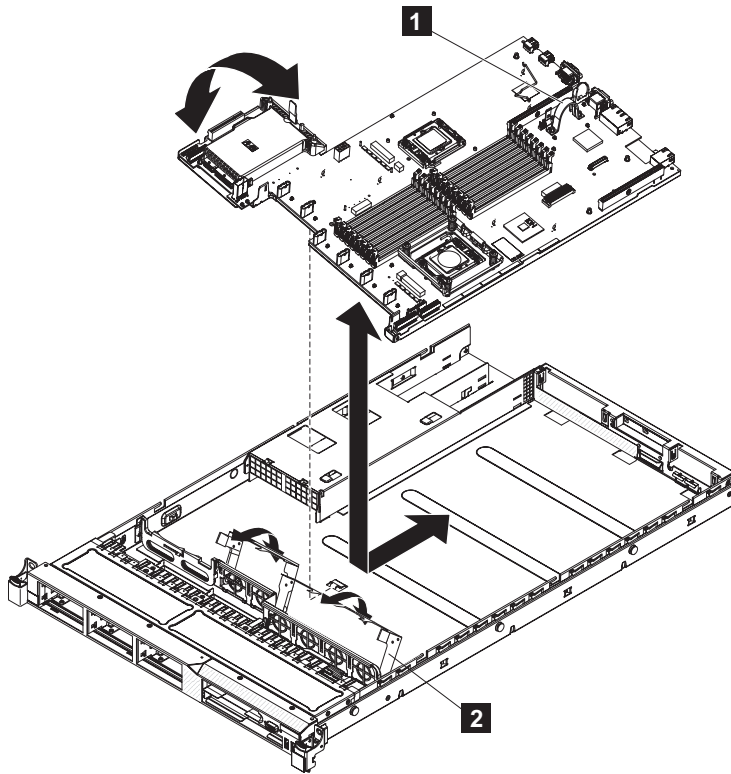

Figure 264. Removing and replacing the SAN Volume Controller 2145-CF8 system board
17. Grasp the system board handle ( **1** in Figure 264 on page 242) and slide the system board away from the back of the node. Lift the side of the system board that is nearer to the power supply units slightly so that it disengages from the locator pin; then, slide the system board slightly toward the left of the node, as shown in Figure 264 on page 242.